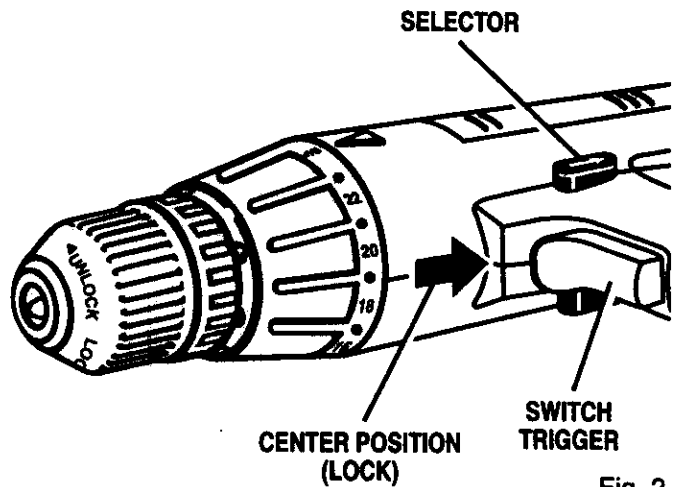

Fig. 2
See Figure 2.
- Lock switch trigger on your drill by placing the direction of rotation selector in center position. See Figure 2.